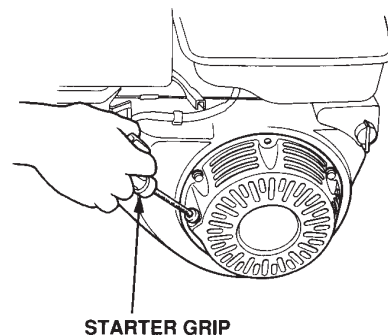

Figure 21. Starter Grip
6. Pull the **starter grip** (Figure 21) lightly until you feel resistance, then pull briskly. Return the starter grip gently. Push the clutch lever forward, toward the tow tongue end of the mixer. When engine starts, adjust throttle lever so that paddle shaft inside mixer rotates between 30-40 RPMs. The number of RPMs will vary depending on engine type and load.